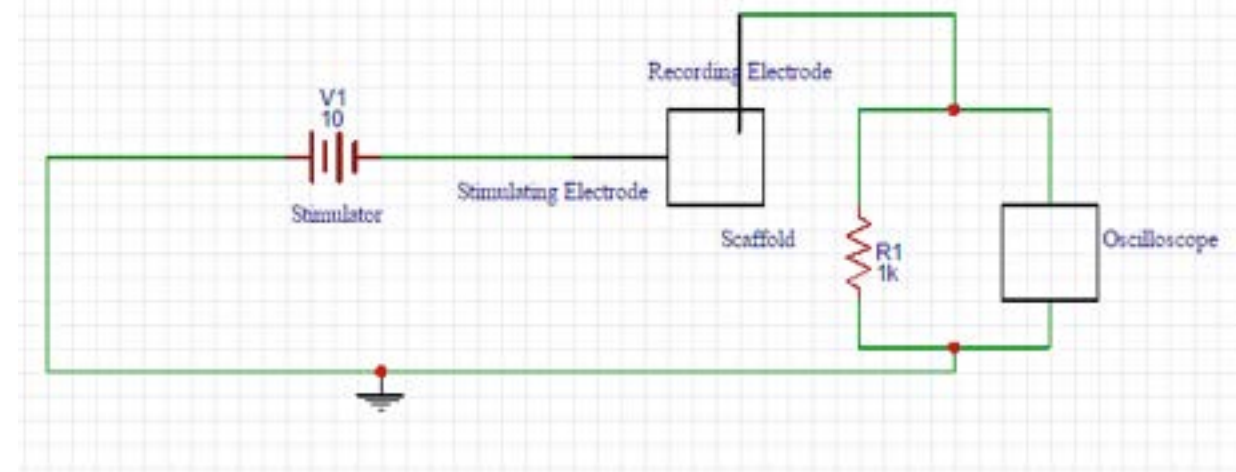

Figure 2. Circuit Connections
- The circuit connections of the device are illustrated in Figure 2